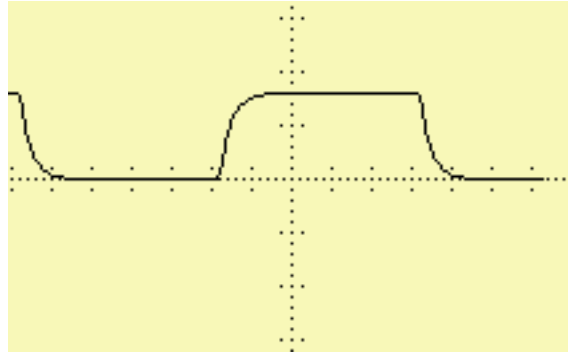

Figure 3. Oscilloscope display of RC response to square wave.
- a. Set the oscilloscope to display the waveform $v_c(t)$ produced by this circuit. The display should be similar to a square wave but with slightly rounded edges as shown in Figure 3.